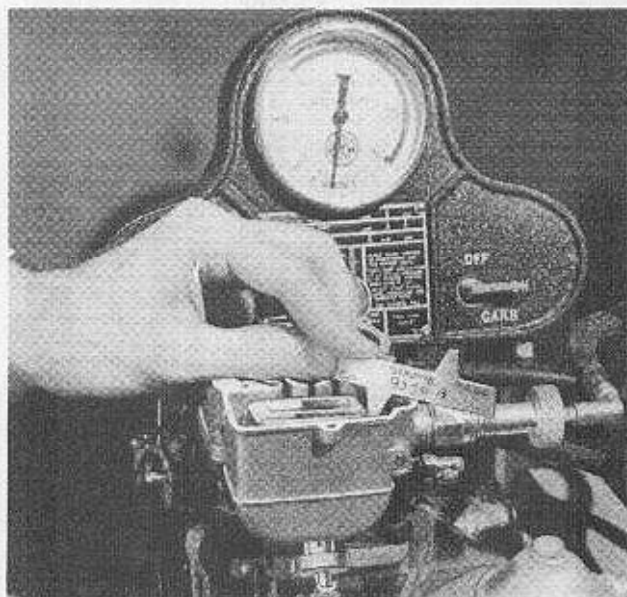

Fig. 30.
- (1) 67-9594 Power jet (power by pass valve)
- (2) 40-9542 Jet—idling
**49** Place assembly on the #9350-A carburetor and fuel pump tester, install #9550-E carburetor bowl drain cock as shown in Fig. 30.
**51** Check level of fuel in float bowl, using "Go"—"No-Go" gauge #9550-B as shown in Fig. 30. "Go" end of gauge should just barely dip into the fuel. "No-Go" end should not touch the fuel. Be sure gauge is dry as any moisture or fuel adhering to the end of gauge will prevent obtaining a correct reading. Be sure end of gauge is well over in center of bowl away from the edge where the fuel adheres to side of bowl. The #9350-A tester must be level.